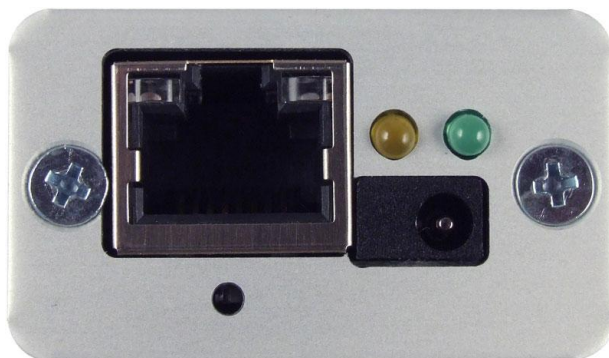

Fig.25 – Indicators, power connector and the Ethernet connector
Indicates that power is connected. It also flashes to indicate the proper function of the device. In TCP mode indicator flashes as the data channel is active. (Fig.25 : right LED.)
Indicates established TCP/IP connection. (Fig.25: left LED.)
- 2) Push the button under Ethernet connector (see Fig.25).